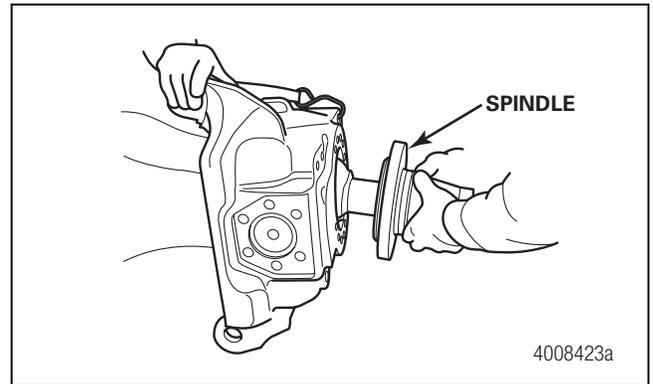

Figure 4.8
1. Remove the mounting bolts from the spindle. Remove the spindle from the knuckle. Figure 4.8.